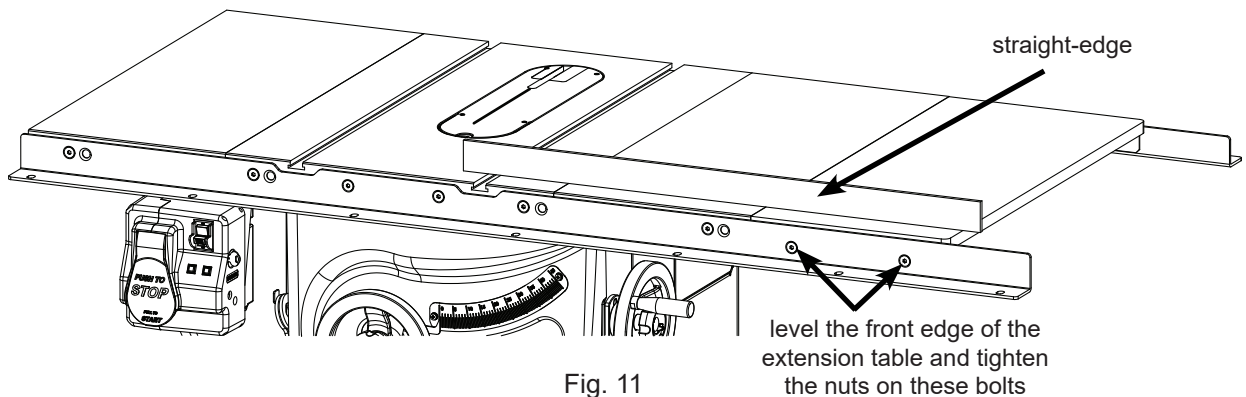

Fig. 11
11. Make sure the extension table is flush against the right extension wing and there is no gap between them. Then, use a straight-edge to level the front edge of the extension table to the cast iron table top (see Fig. 11). You may have to pull up or push down on the outer edge of the extension table to level it. Once the front edge of the extension table is level, use a 5 mm hex wrench and a 13 mm wrench to fully tighten the nuts on the bolts that mount the extension table to the front rail. Repeat this process to level the rear edge of the extension table to the cast iron table top.